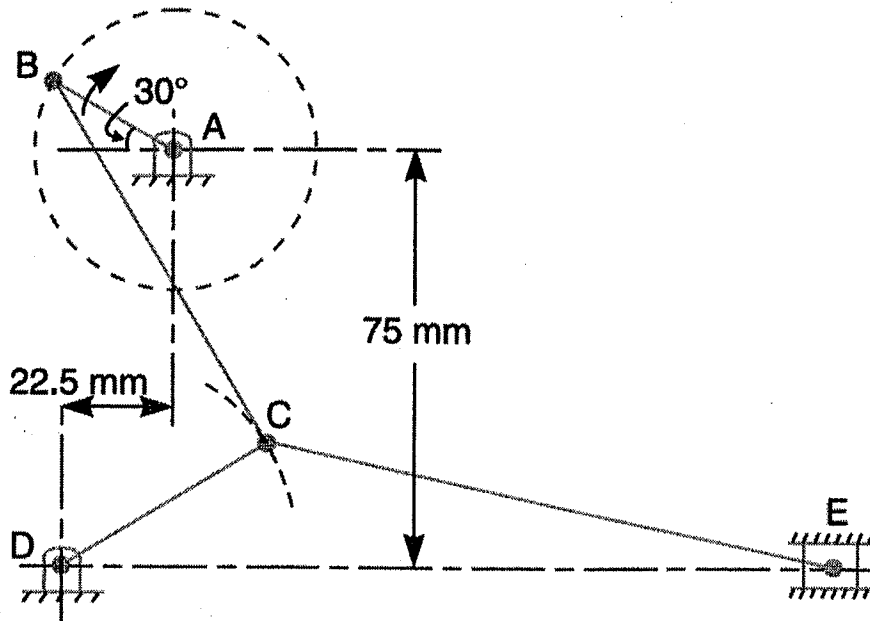

Figure Q2
2. The dimensions of the links in a mechanism shown in Figure Q2 are as follows :